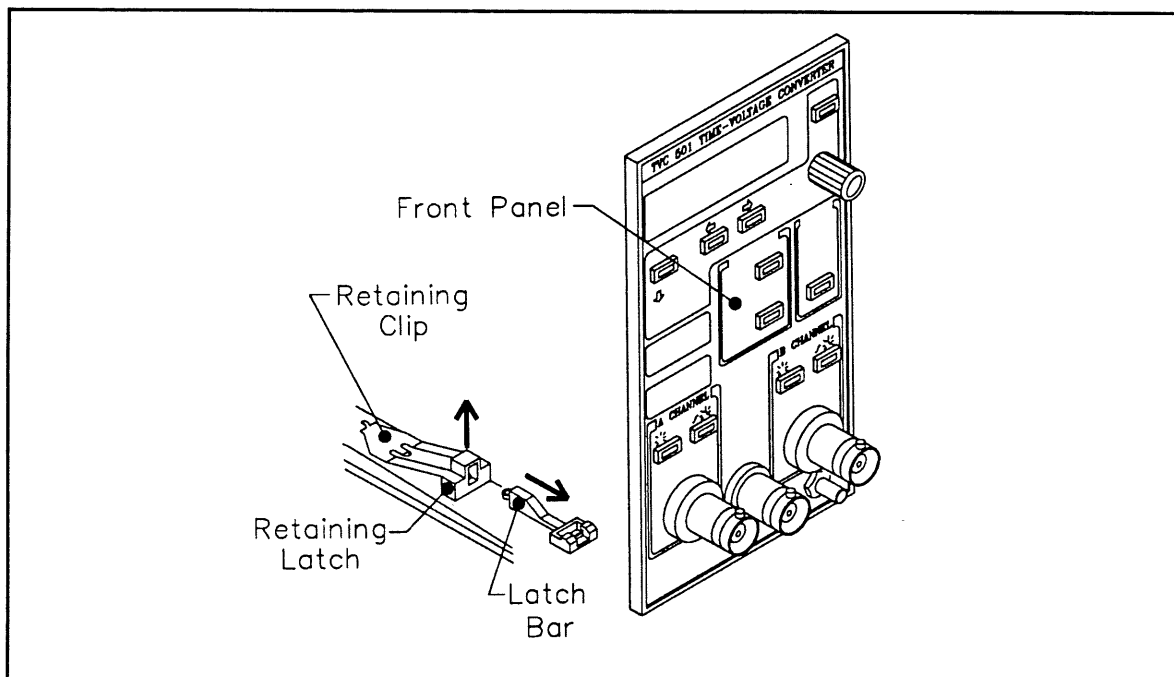

Figure 5-3. Removing the Latch Bar and Retaining Latch.
5. Slide the latch bar forward until it clears the retaining latch as shown in Figure 5-3.
6. Push the retaining latch up past the retaining clip, as shown in Figure 5-3, and remove the retaining latch.